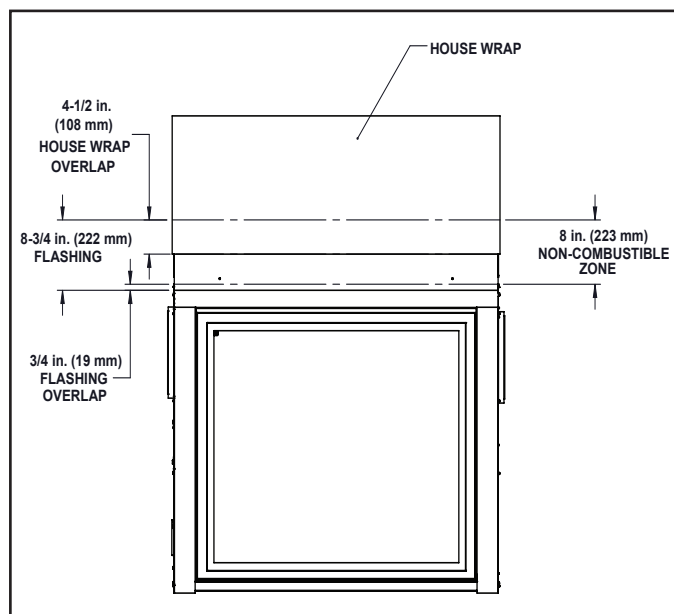

Figure 10.4
5. For placement of house wrap or building paper and tape see Figure 10.4. Special care should be taken when choosing building materials or weatherproofing (i.e. building wraps, sealant tapes, liquid sealants, rubberized flashings, etc.). All sealant materials or building wraps installed must be approved to a minimum temperature of 225 °F (124 °C) continuous exposure. Consult the material's manufacturer to ensure product compliance.